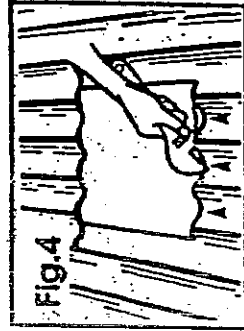
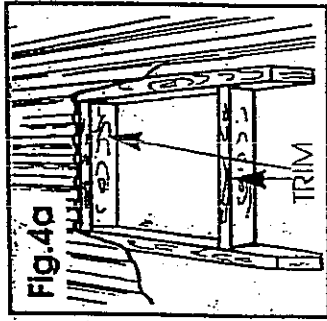

Fig. 4
Fig. 4a
4. Having cut the roof opening turn up the valleys of the corrugated iron on the lower side of the opening as shown (Fig.4) for weathering purposes. As indicated this can be achieved by using a shifter or a pair of pliers. Trim rafters to skylight opening size. (Fig.4a).